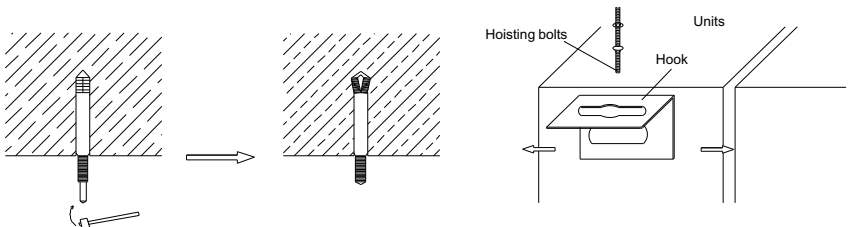

Fig 16
- c. The indoor unit is mounted on the ceiling, See Figure 16.